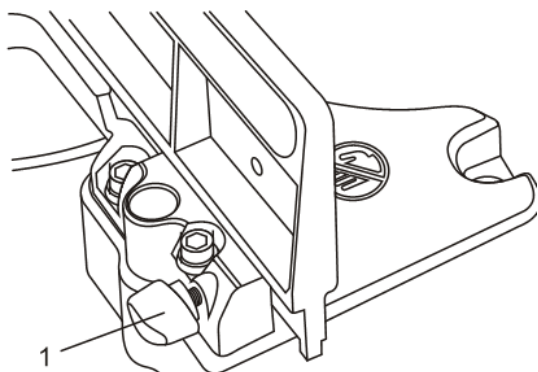

Fig. 18
1. Loosen the fence extender locking knob (1) on the side to which the cutting head is tilted (Fig. 18).
1. Adjust the fence extender (1) as outlined in Fig. 18 & 19)